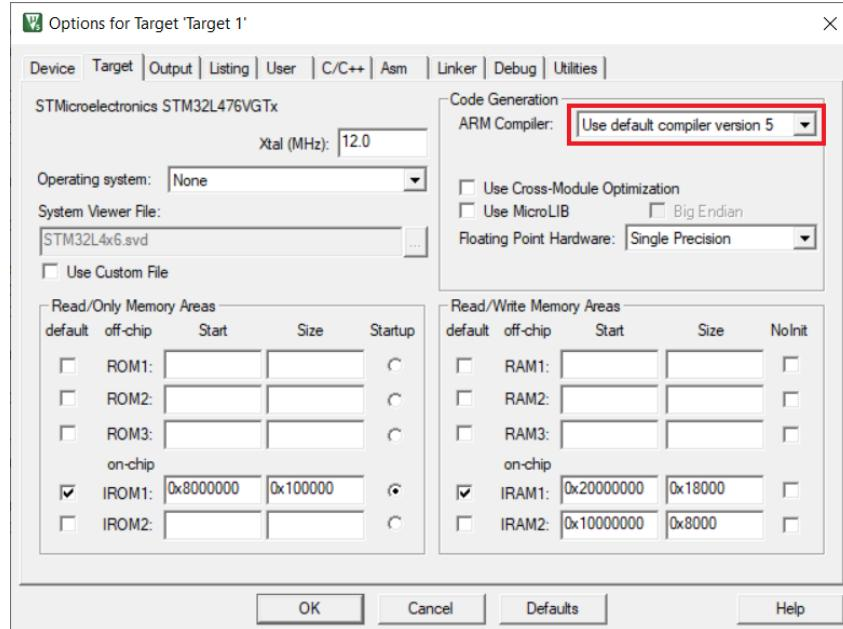

Figure 6
- Under the **Target** tab, select **Use default compiler version 5** under **Code Generation** → **ARM Compiler** (see Figure 6).